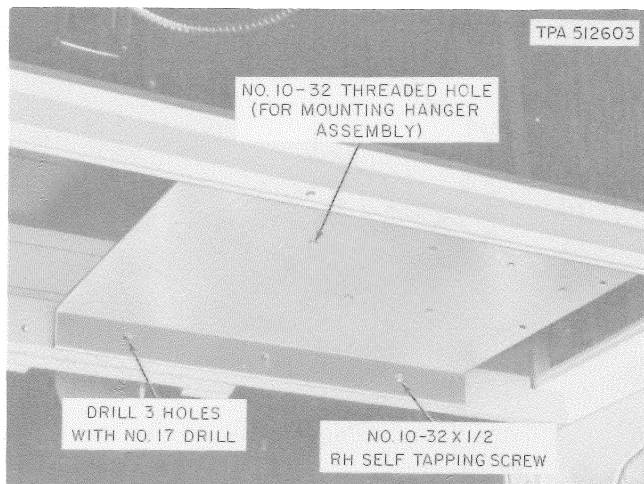

Fig. 18—Installation of KS-19267, List 14 Mounting Bracket
3.13 Using the mounting bracket as a template, mark the location for drilling a second hole on the front cross rail and three holes (Fig. 18) on the rear cross rail.